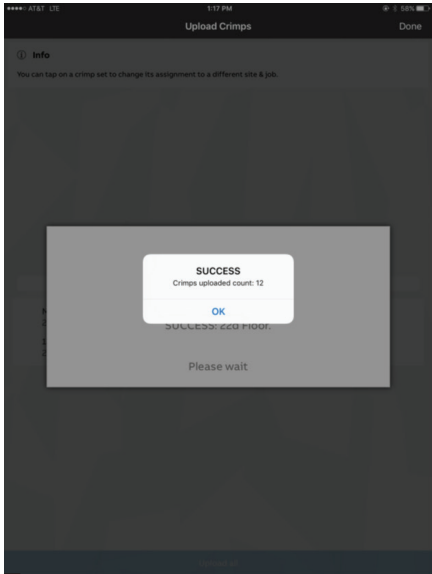

Figure 14
- Select **OK** to clear confirmation message (Figure 14)